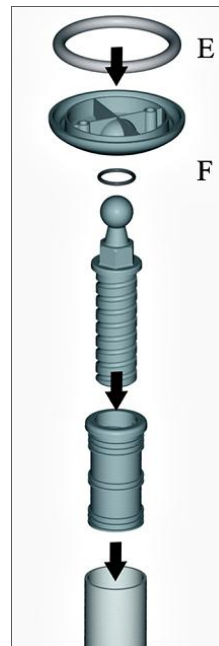

Fig. 3
5. Mount the end blocks (C) by inserting them on tube ends (A). (Fig. 3)
6. Turn the thread plug + foot plate in place. NB. the location of spacer rings. (Fig. 3)